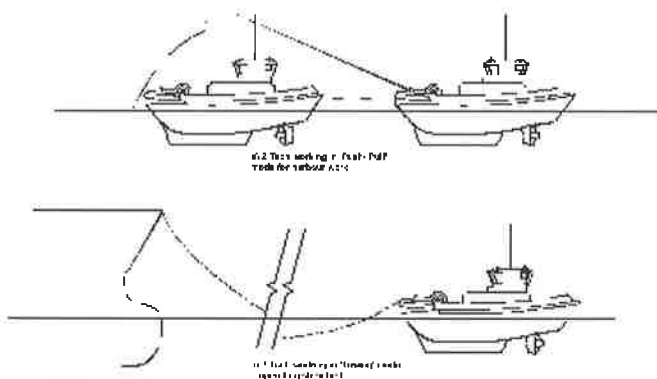

Figure A.6 A single winch serves all ship-handling and towing duties
- Only one winch is required for both harbour and coastal towing operations. When towing long distances, the tug will simply tow in tractor mode going "astern". (**Figure A.6**) In practise this is most likely to be a double-drum winch, with one drum carrying a synthetic hawser, and the other